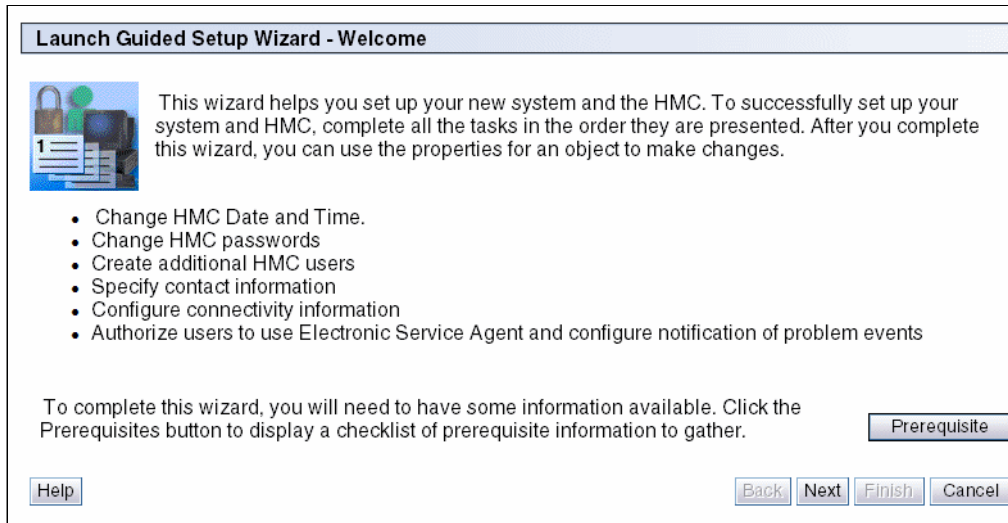

Figure 3-10 Launch Guided Setup Wizard - Welcome page
3. The Launch Guided Setup Wizard - Welcome page opens (Figure 3-10). Click **Next** to continue with the Guided Setup wizard.